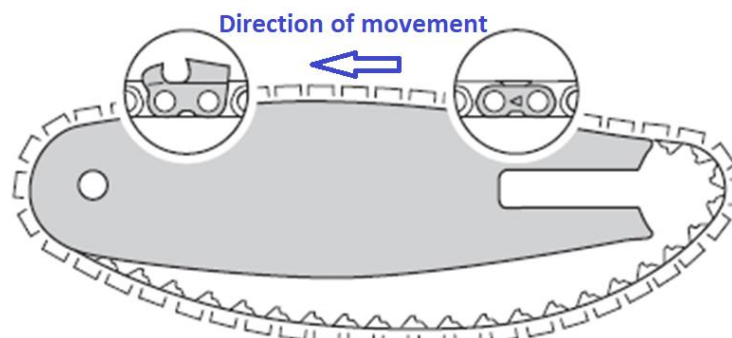

Fig. 5
- Turn the wingnut (4) counterclockwise until the chain sprocket cover can be removed.
- Position the chain in the groove of the guide bar, starting at the tip. Make sure the arrows on the tie straps point to the direction of chain movement. (Fig. 5 refers)